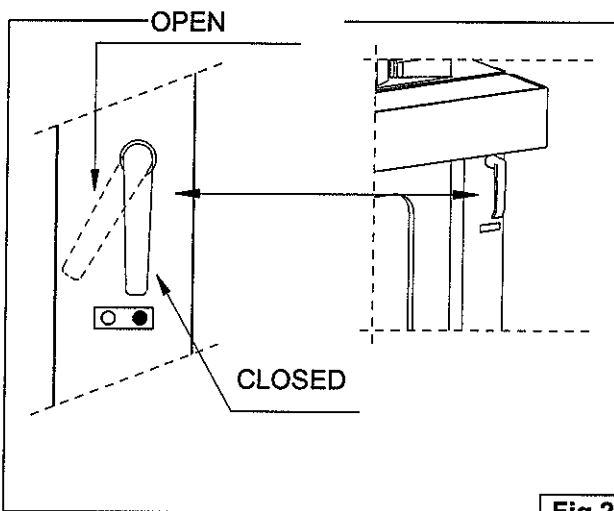

Fig.29
Close and lock the door; close the manual lock on the steam box (Fig. 29); set a temperature of 60°C and switch on the fan ; press the START button . The set of elements starts to operate and after a few minutes, when it reaches the temperature set, it should go off.
- Ascertain that the correct temperature is set on the thermoregulator ①
- Open the manual steam vent as shown in **Fig. 29**